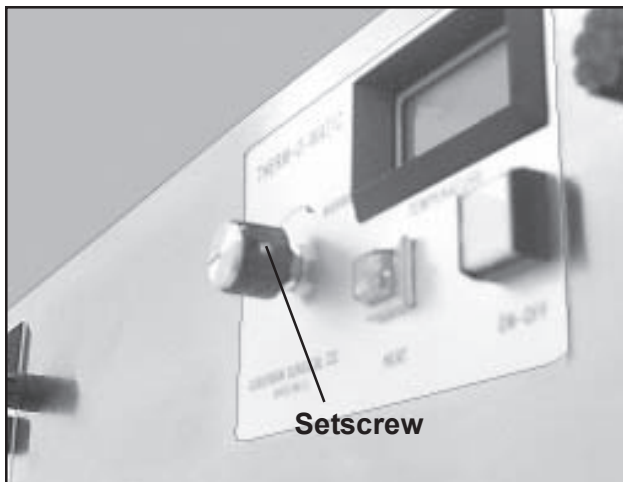

Figure 21. Temperature Control Knob Set-screw
3. With a small flat-blade screwdriver, loosen the setscrew in the knob (Figure 21).
3. Tighten the setscrew (Figure 21).